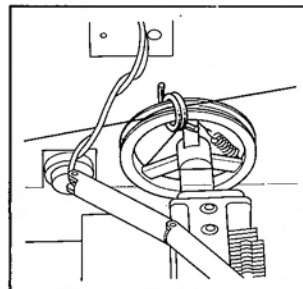

Fig. 1
4.3 Loosen two set screw of the variable capacitor pulley and remove the pulley from of the variable capacitor shaft. For easier handling, taking the pulley and the dial thred away binding them with wire etc. as illustrated in Fig. 1.